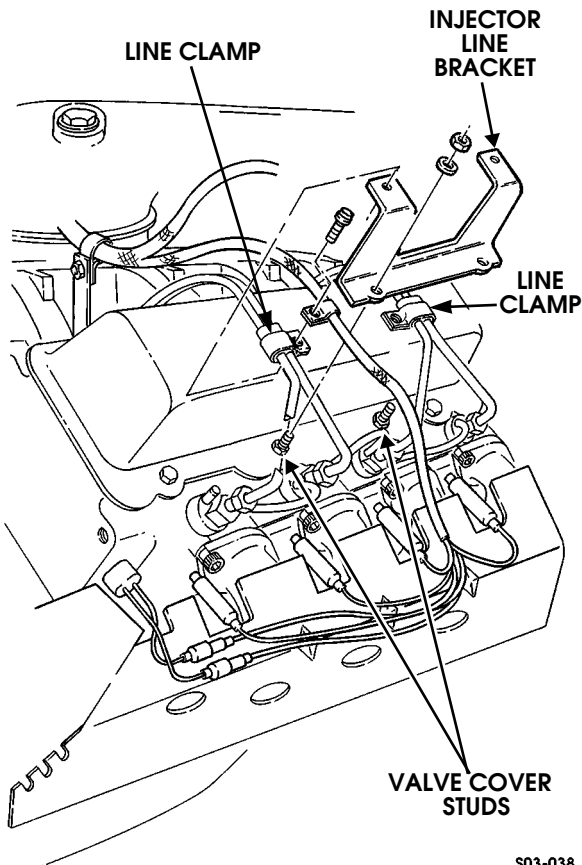

Figure 3-51: Injection Line Bracket Removal/Installation (NA Diesel Shown)
3. Remove bracket (Figure 3-51).